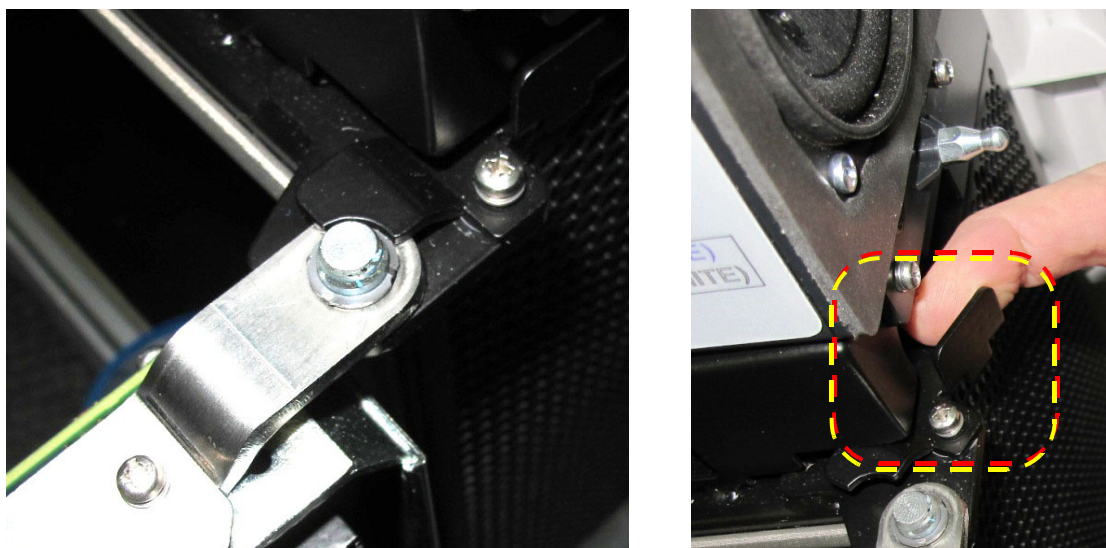

Figure 8-140 Open Safety-Catch on Hinge of Cage Door
- 7.) Open the safety-catch on the cage-hinge - see Figure 8-140.
- 2.) Close the safety-catch on the cage hinge - refer to Figure 8-140 on page 8-108.